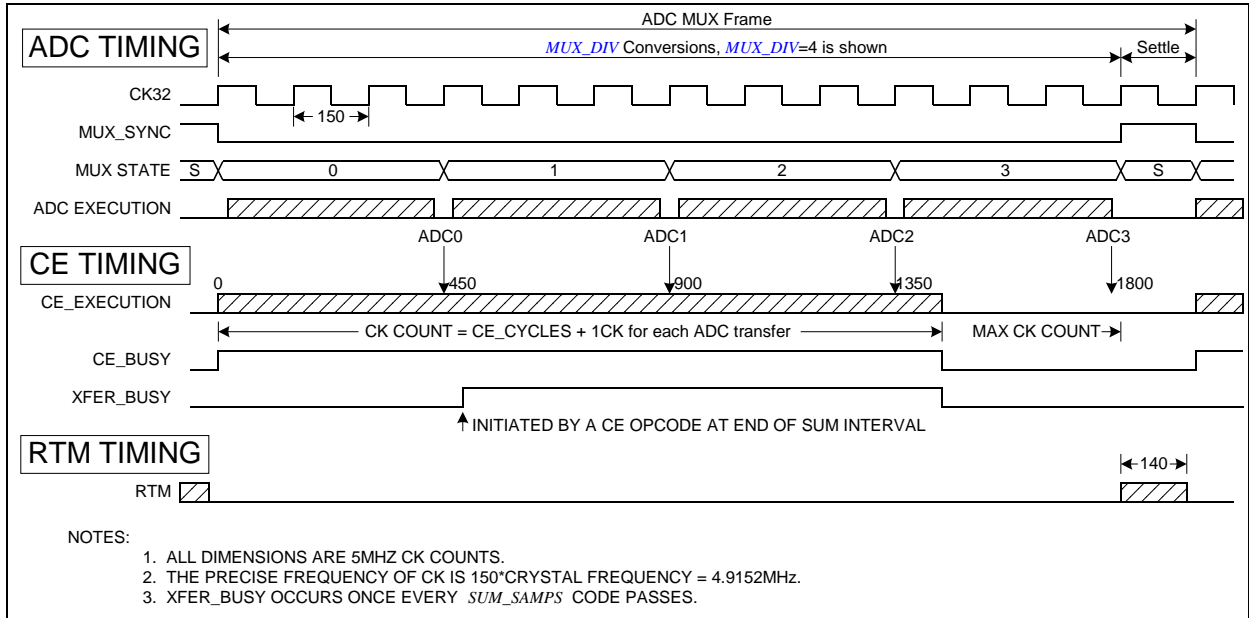

Figure 11: Timing relationship between ADC MUX, CE, and RTM Serial Transfer
Figure 11 summarizes the timing relationships between the input MUX states, the *CE_BUSY* signal, and the RTM serial output stream. In this example, $MUX_DIV[3:0] = 4$ ($I/O\ RAM\ 0x2100[7:4]$) and $FIR_LEN[1:0] = 10$ ($I/O\ RAM\ 0x210C[1]$), (384), resulting in 4 ADC conversions. An ADC conversion always consumes an integer number of *CK32* clocks. Followed by the conversions is a single *CK32* cycle.
Figure 11 also shows that the RTM serial data stream begins transmitting at the beginning of state S. RTM, consisting of 140 *CK* cycles, always finishes before the next CE code pass starts.